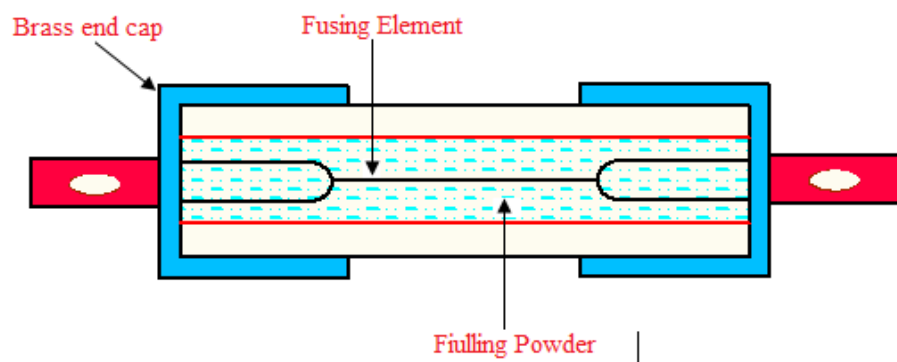

Fig.5.1 Construction of HRC fuse
- Figure 5.1 shows the construction of a typical high rupturing capacity (HRC) fuse link.